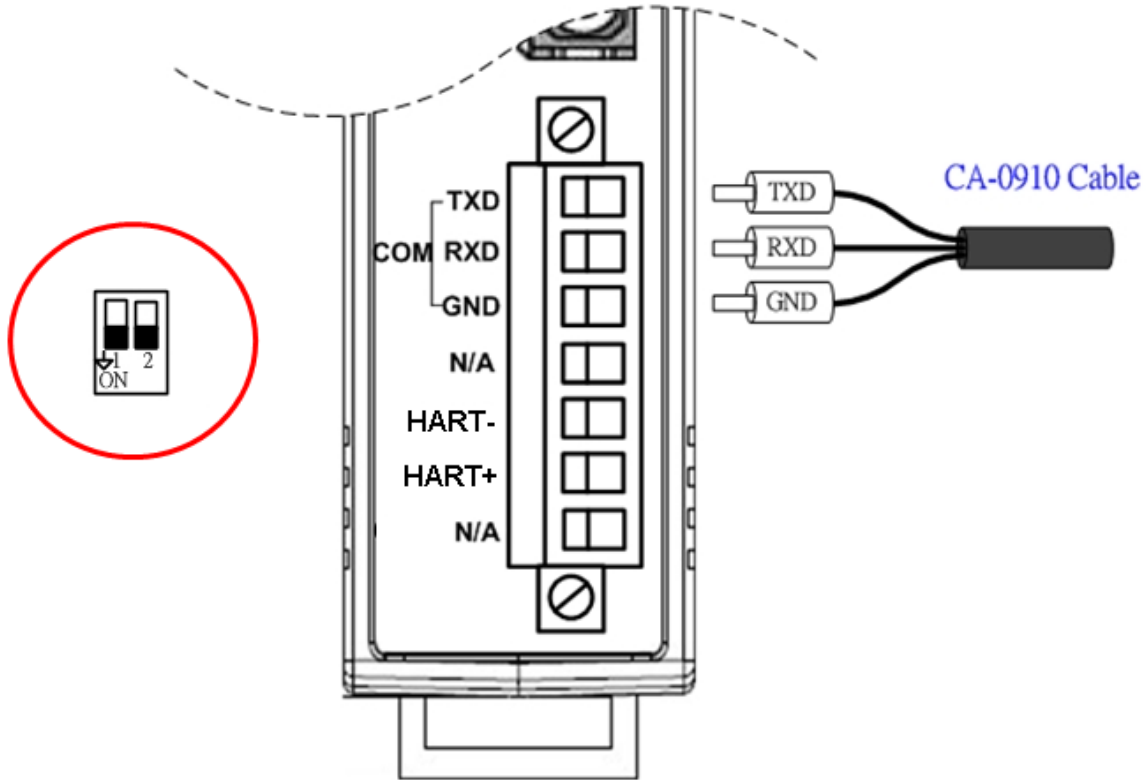

Figure 5-1 RS-232 wire connection between PC and HRT-227CS
Step 2: Set the value of dip switch (mode) to be 3. Then connect the COM port between PC and the HRT-227CS together with CA-0910 cable like Figure 5-1.
(1) Connect the TXD / RXD / GND pins together between PC and HRT-227CS.